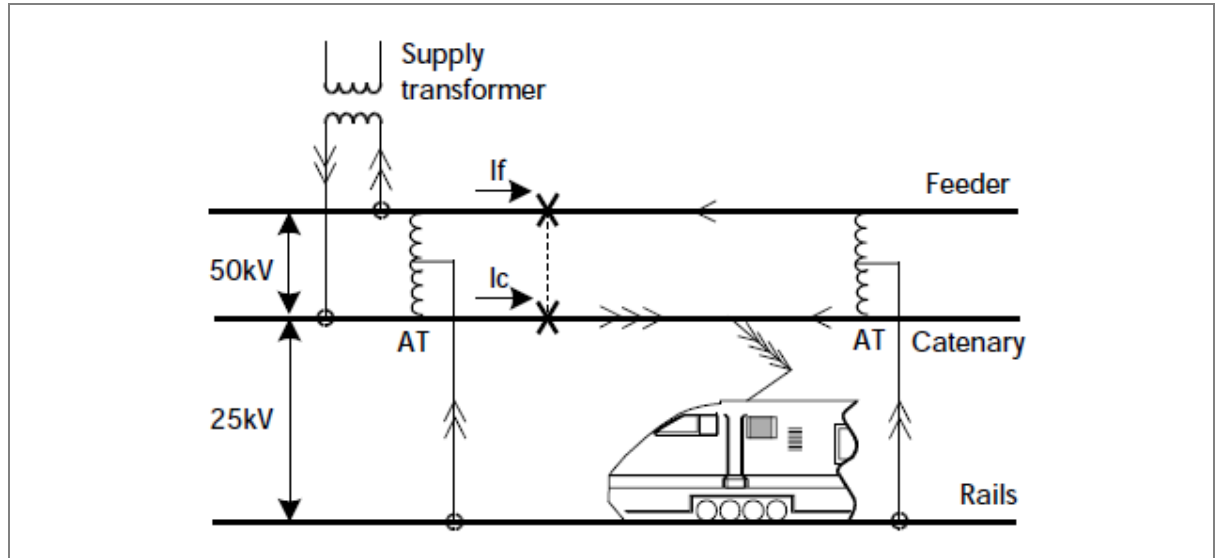

Figure 3: Typical Western European 25-0-25kV auto-transformer feeding
Figure 3 shows the distribution of load current for a train situated midway between AT locations. Each arrow shows a unit of current equal to $\frac{1}{4}$ of the train load. Assume that two units of current are drawn from the 50 kV supply, with the flow to the train through the catenary. This current returns to the supply transformer through the upper half of the AT windings, with the load shared between the neighbouring ATs.
Figure 3. shows that wherever the catenary current and the inverted feeder current is added in the system ($I_{cat} - I_{fdr}$), the sum equals the load downstream. The same is true for fault current. Adding these currents by a parallel connection of CT secondaries, or by adding them in the IED, forms the basis of most protection methods.
- The initial slope of the characteristic in ohms/km is shown as line A. This is equal to the characteristic impedance of a catenary-to-rail out-and-back fault loop (the 25 kV loop in Figure 3).
- At AT locations, slope B shows the effective ohms/km trend. This is equal to half the characteristic impedance of a catenary-to-feeder out-and-back loop (the 50 kV loop in Figure 3). This is lower due to the feeder being a better conductor than the rails.
- Beyond SS1, the paralleling effect means that slope C is greater than slope A. In Figure 3 a four-track system is simulated, so the gradient of C is approximately four times that of A. It is marginally higher than four for the inner tracks and less than four for the outer tracks.